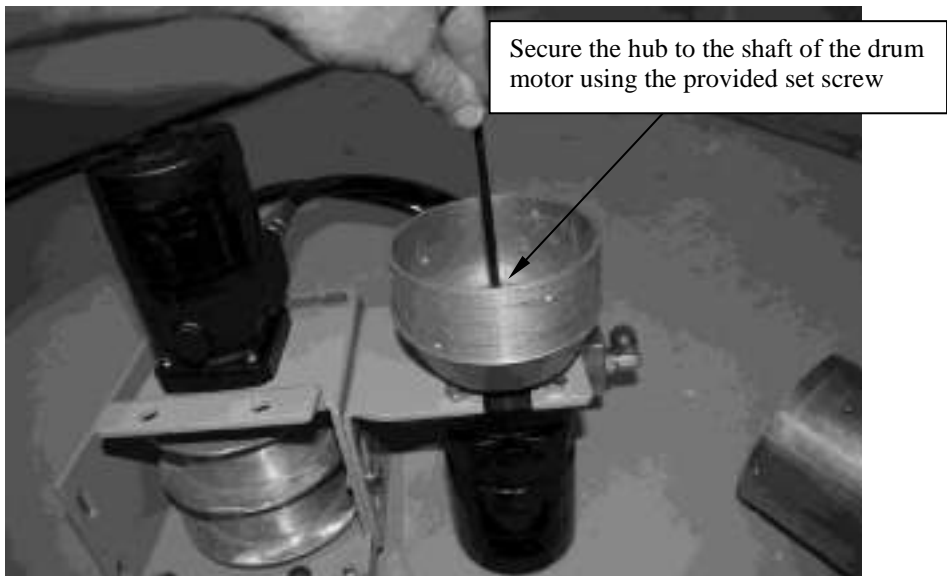

Fig 3
- 3. Remove the drum motor hub by loosening the six screws that hold it in place. Line up the notch in the hub with the drum motor shaft key and lightly tap the hub onto the shaft of the motor. Secure the hub onto motor shaft by threading in the provided 3/16" (5mm) hex-head screw. (Fig 3)